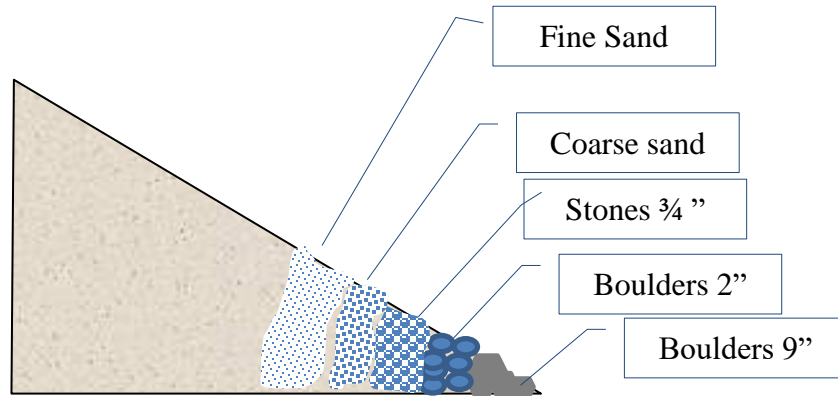

Figure 4 : Detail of Toe Filter of a Earthen Dam
- Toe of the earth dam should have a toe filter to prevent the toe eroding. (Figure 4)